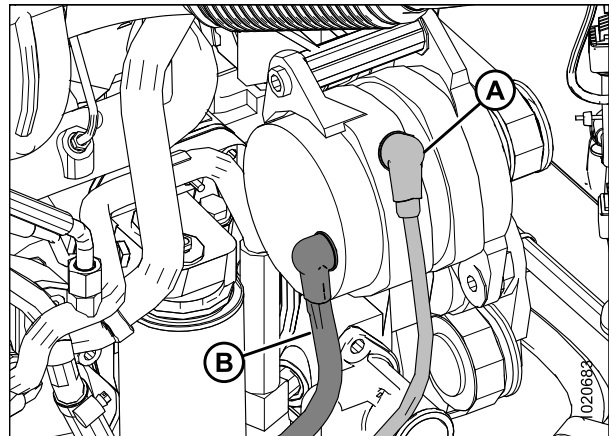

Figure 5.33: Alternator
- Do **NOT** short across battery or alternator terminals or allow battery positive (+) cable (A) or alternator wire to become grounded.
- If wires are disconnected from the alternator, refer to Figure 5.33, page 266 to ensure proper connection.